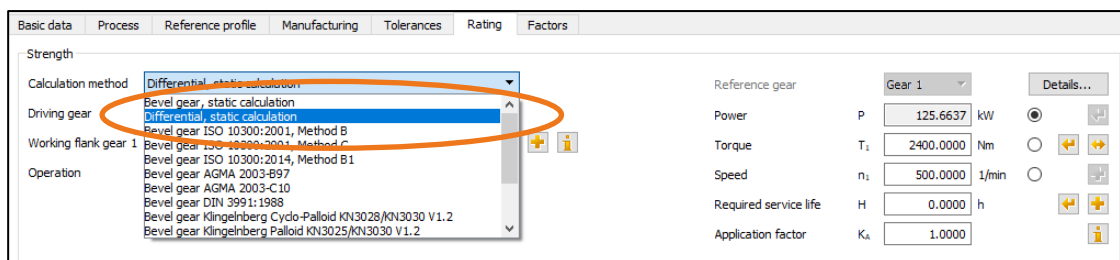

Figure 6. «Differential, static calculation» strength calculation
- In «**Rating**» → «**Calculation method**», select the «**Differential, static calculation**» calculation method (see Figure 6).